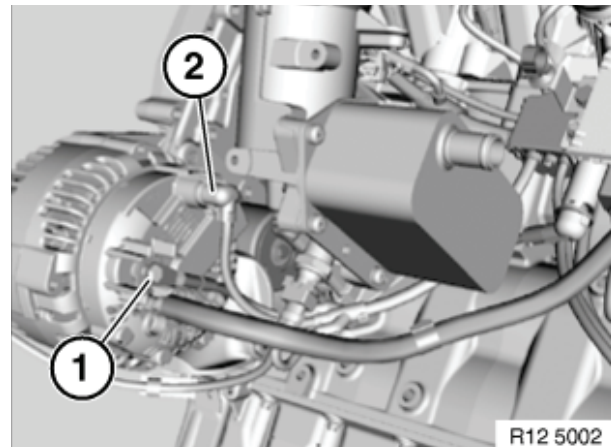

Figure 11-2
4. Disconnect positive (+) cable (**Figure 11-2, (1)**) from alternator.
5. Disconnect connector (**Figure 11-2, (2)**) from alternator.